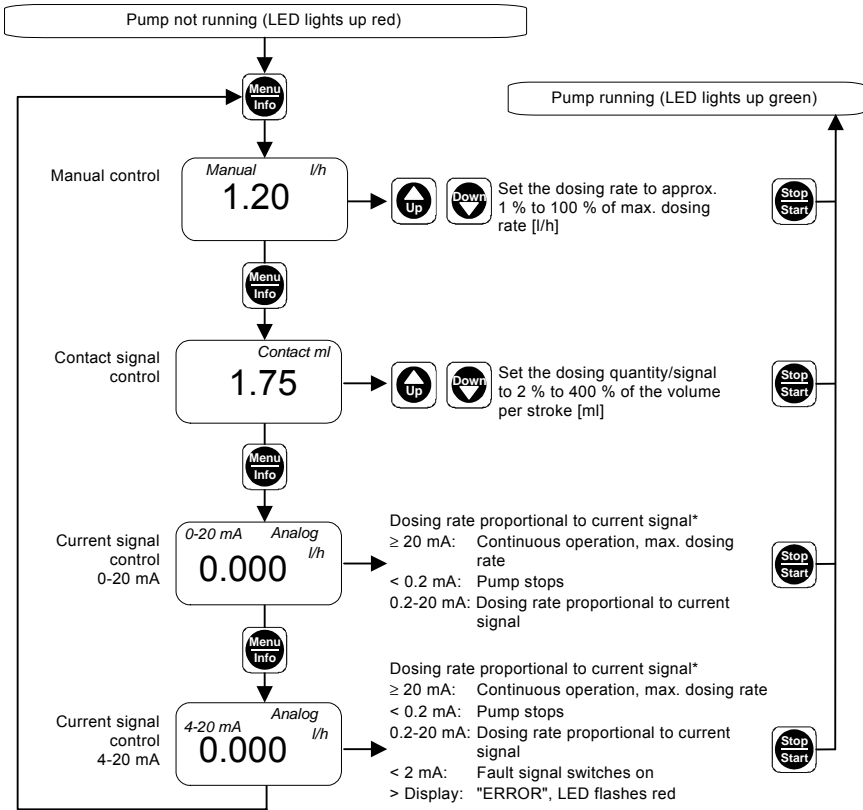

Fig. 38 First function level
3. Use the "Up" and "Down" buttons to modify the settings in the relevant menu as shown in fig. 38.